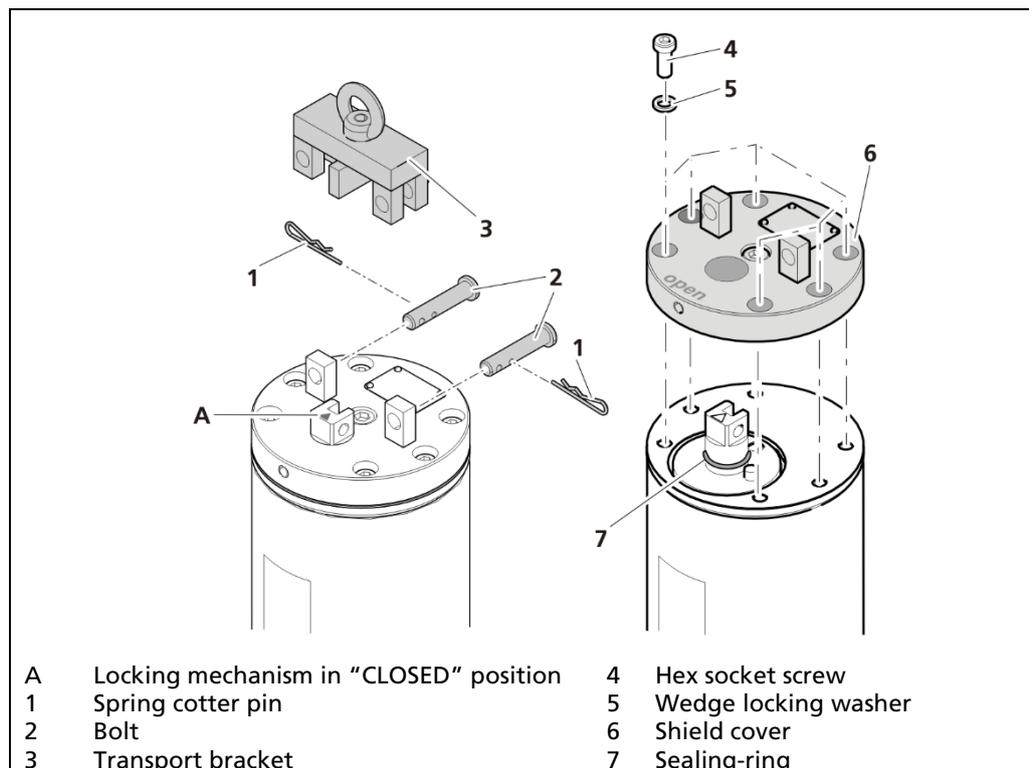

Fig. 15 Inspection and replacement of the sealing ring
1. Remove the spring cotter pins (Fig. 15, pos.1) and the bolts (Fig. 15, pos.2)
2. Remove the transportation bracket (Fig. 15, pos.1) and ensure that the locking mechanism is turned to the "CLOSED" (Fig. 15, A) position.
3. Untighten the hex socket screws (Fig. 15, pos.4) of the shield cover and remove the shield cover (Fig. 15, pos.6).
4. Check the sealing ring (Fig. 15, pos.7) for damages and wear and replace it, if required.
5. Remount the shielding cover (Fig. 15, pos.6) and the transportation bracket
(Fig. 15, pos.3).